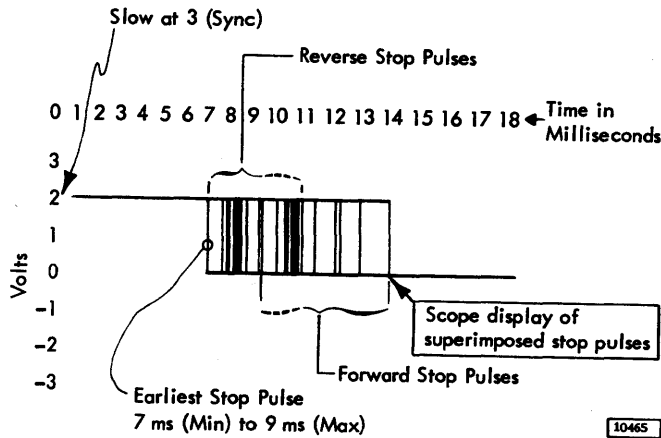

Figure 4-7. Accessing Deceleration Check
4. Observe the 'stop' signal while accessing continuously (Figure 4-7). Note that the stop time varies with the direction of access. It also varies from one access to the next. This variation is normal. Typically, the stop signals tend to fall into two discrete groups (one for forward and one for reverse accesses).
With the machine seeking, watch the stop pulses for several minutes. Look for the earliest stop occurring in either forward or reverse direction (Figure 4-7). The earliest stop pulse should occur between 7ms and 9ms after the 'slow at 3' signal.